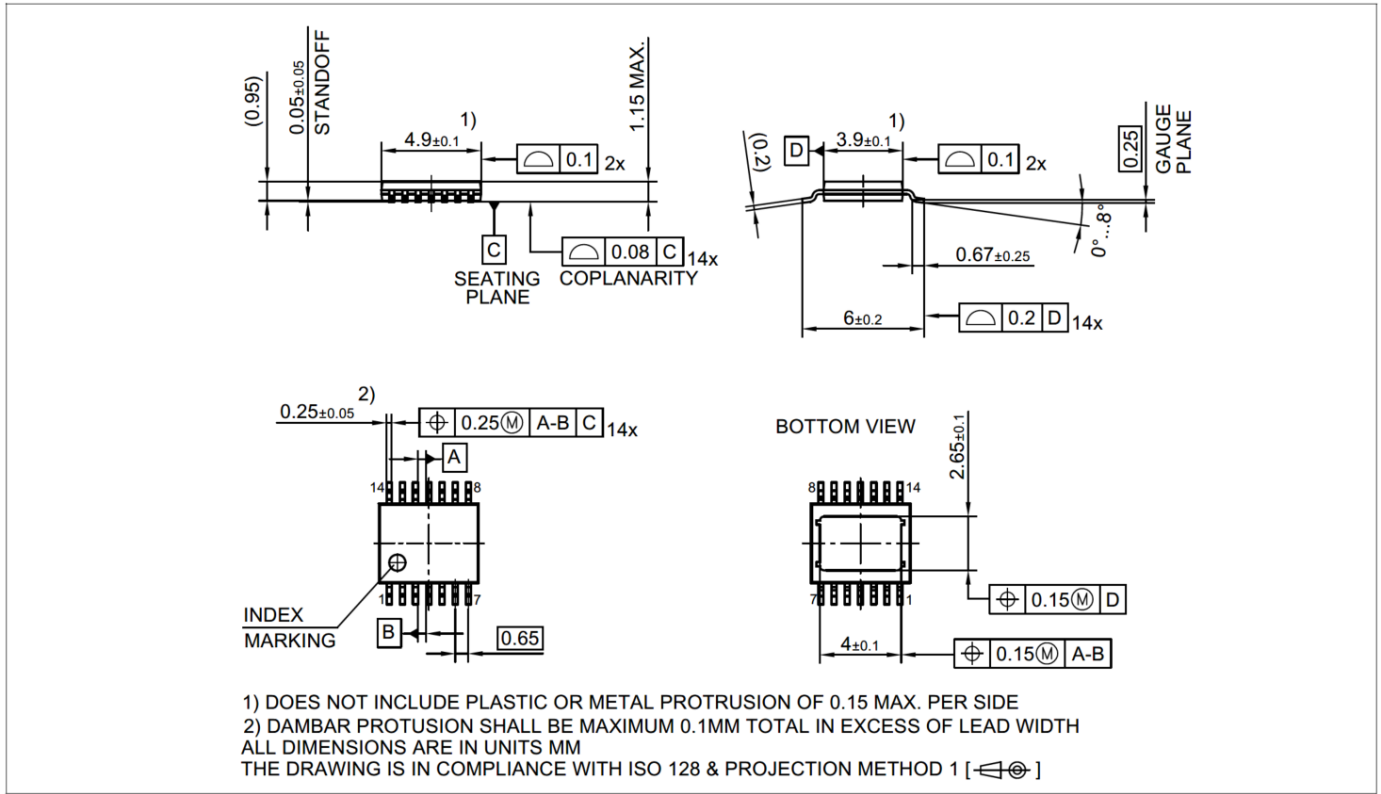
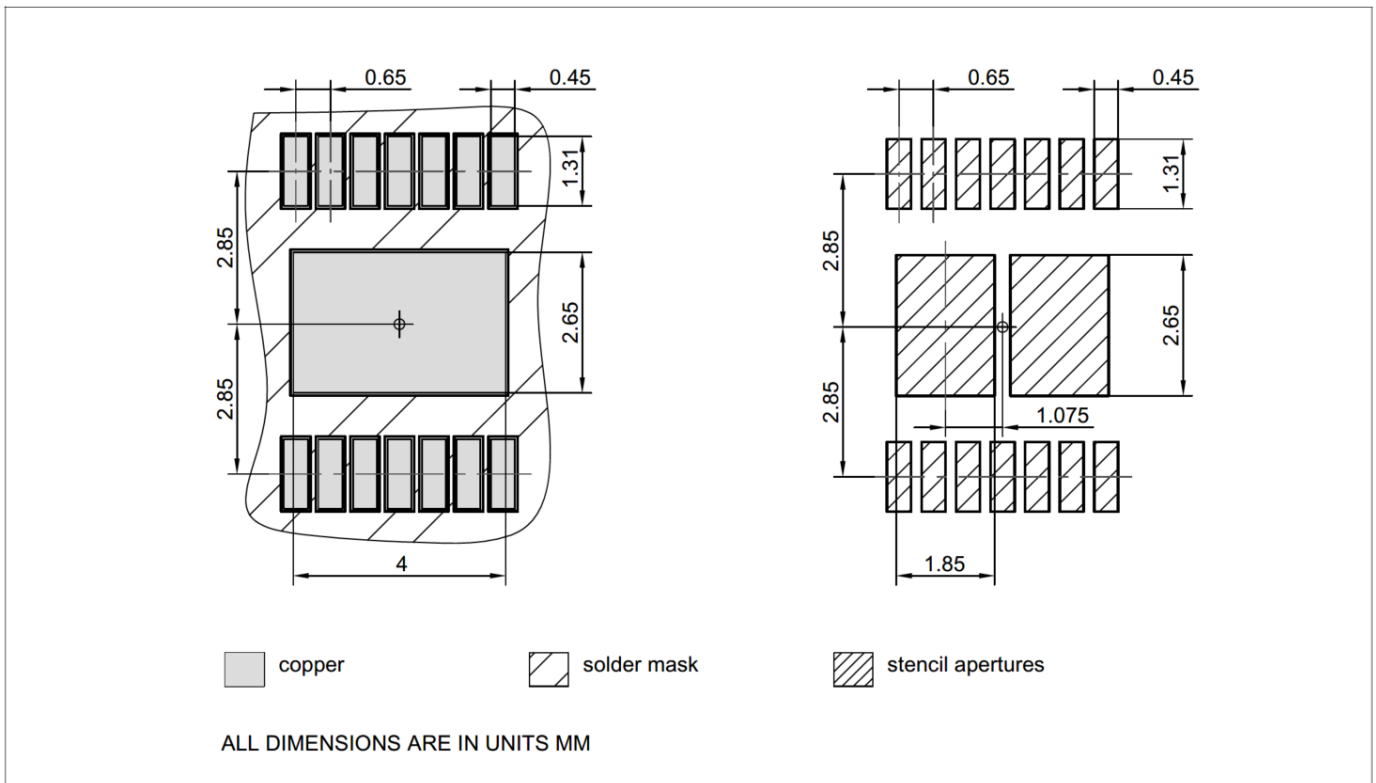

Figure 43 PG-TSDSO-14 (Thin (Slim) Dual Small Outline 14 pins) Package Outline
Figure 44 PG-TSDSO-14 (Thin (Slim) Dual Small Outline 14 pins) Package pads and stencil
1.02, 2019-06-26	<p>Chapter 9.2 updated (2 V → $V_{DS(OLOFF)}$)</p> <p>Chapter 1 updated ((inserted headline "Product Validation"), (Qualified in accordance with AEC Q100 grade 1 → Qualified for automotive applications. Product validation according to AEC-Q100 Grade 1.))</p> <p>General: updated Product Name (PROFET™+2 → PROFET™+2 12V)</p> <p>Page 1: updated figure product</p> <p>P_8.7.9.5, P_8.7.9.6 updated (Typ.: 4 A → 6 A)</p> <p>Table 24 updated punctuation</p> <p>Chapter 9.3.1 updated (typo)</p> <p>Page 1: updated (Package PG-TSDSO-14-22 → Package PG-TSDSO-14)</p> <p>Figure 29 updated</p> <p>Figure 43 updated (PG-TSDSO-14-22 (Thin (Slim) Dual Small Outline 14 pins) Package Outline → PG-TSDSO-14 (Thin (Slim) Dual Small Outline 14 pins) Package Outline)</p> <p>Figure 44 updated (PG-TSDSO-14-22 (Thin (Slim) Dual Small Outline 14 pins) Package pads and stencil → PG-TSDSO-14 (Thin (Slim) Dual Small Outline 14 pins) Package pads and stencil)</p> <p>Table 1 updated ((Symbol: $I_{VS(SLEEP)}$ → $I_{VS(SLEEP)_{85}}$), (Parameter: Minimum Overvoltage protection ($T_J = 25\text{ °C}$) → Minimum Overvoltage protection ($T_J \geq 25\text{ °C}$))</p> <p>P_9.6.0.6 updated (Note or Test Condition: removed unnecessary line-break)</p>